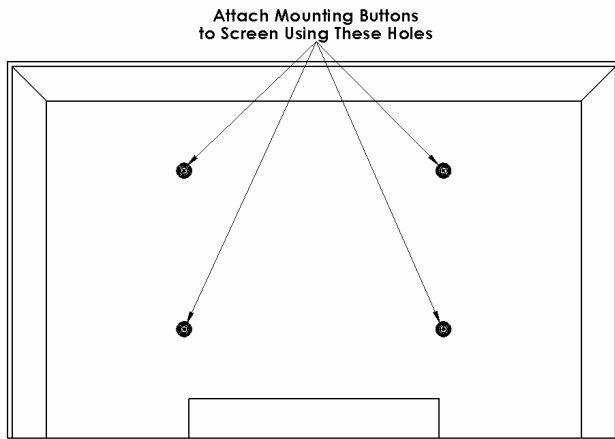

Figure 3
2. Attach mounting buttons to the display using the M5 screws provided (see Figure 3 and 4).